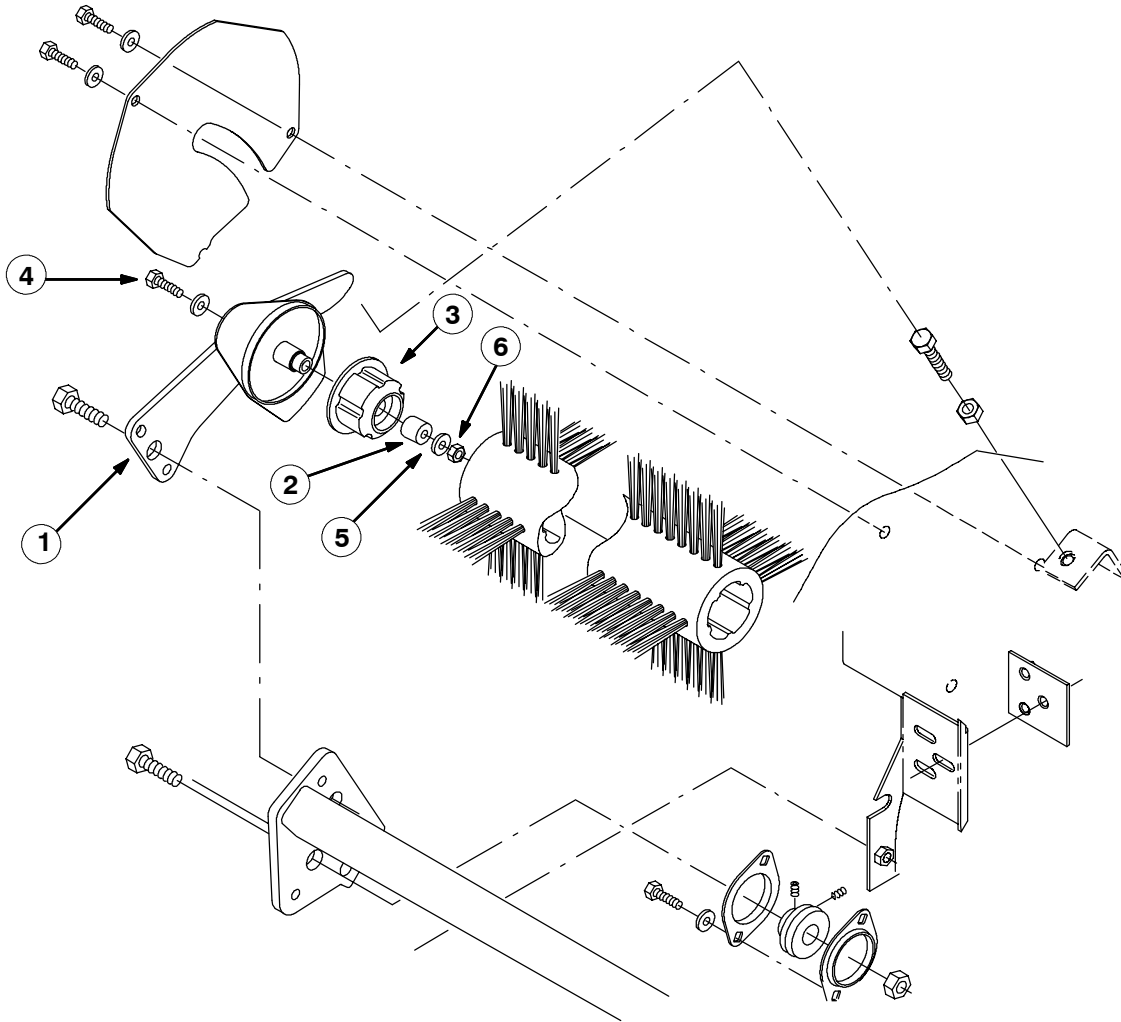

FIG. 1 - New Brush Idler Installation
(Refer to FIG. 1)
4. Mount the new idler plug (3) to the new brush arm (1) with the hex screw (4), washers (5), sleeve (2) and lock nut (6). Tighten mounting hardware to 18.5–24 Nm (15–20 ft lb). (Refer to FIG. 1)
5. Insert the new brush idler plug into the brush end, and secure the new brush arm to the machine with the set aside hex screw. (Refer to FIG. 1)